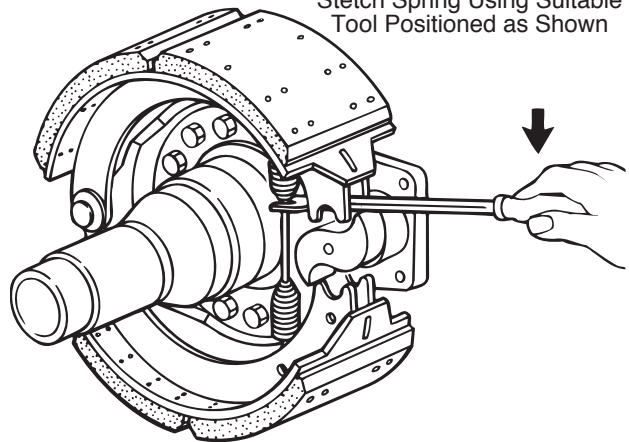

Figure 11
5. Install a new shoe return spring. Refer to Figure 11.